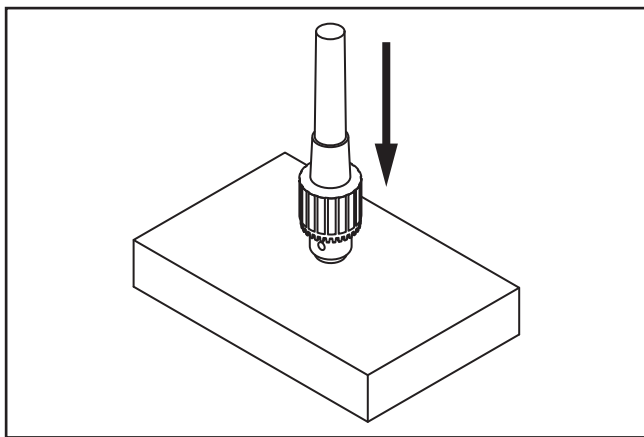

Figure 17. Tapping drill chuck/arbor on block of wood.
4. Hold assembly by arbor and tap chuck onto a block of wood with medium force, as illustrated in **Figure 17**.